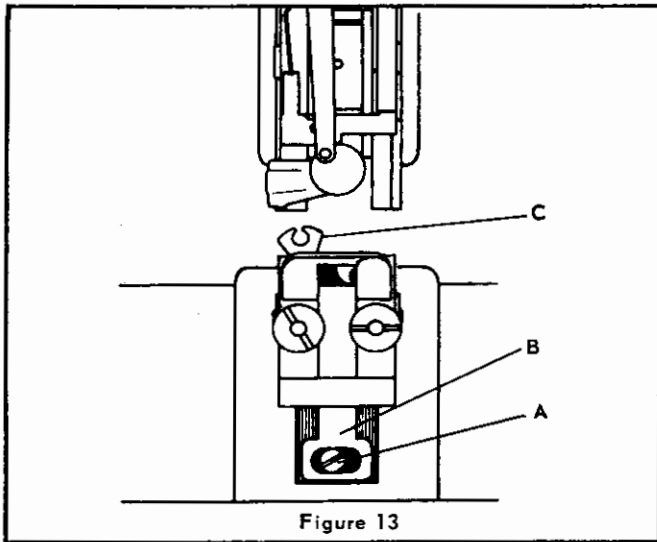

Figure 13
**To reverse or replace the clincher points: (Figure 13)**